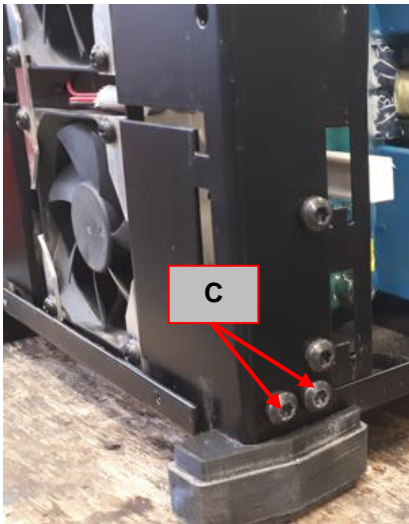

Figure 44
7. Using the TX25 wrench remove the 2 screws (**C**) on the right side, See **Figure 44**. Do the same on the left side.